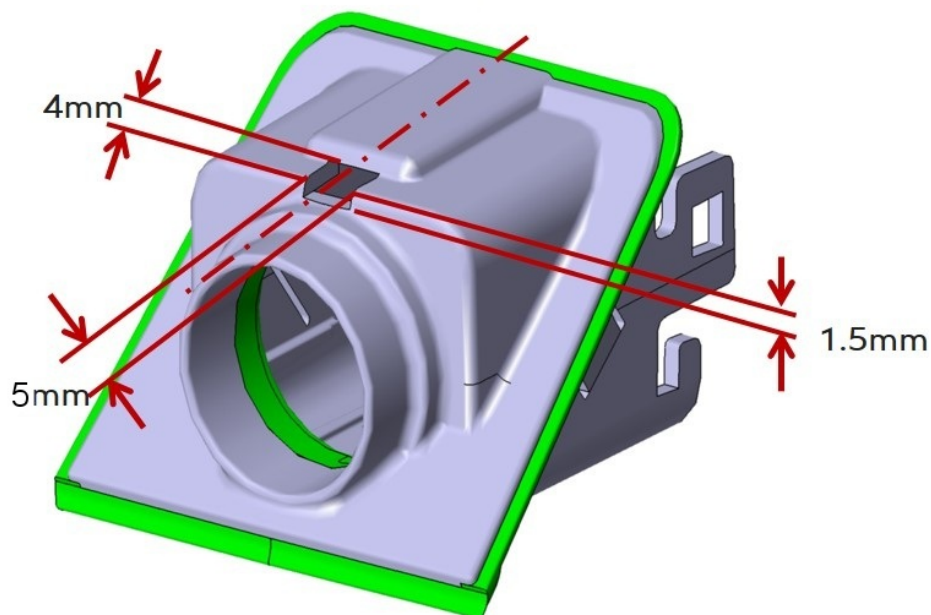

Figure 3
- Referring to Figure 3 - Use a 2.5mm drill bit to make an initial pilot hole
- Once the pilot hole has been made use a suitable file to square the hole to the dimensions shown in Figure 3 **IMPORTANT**: Do not exceed the given measurements